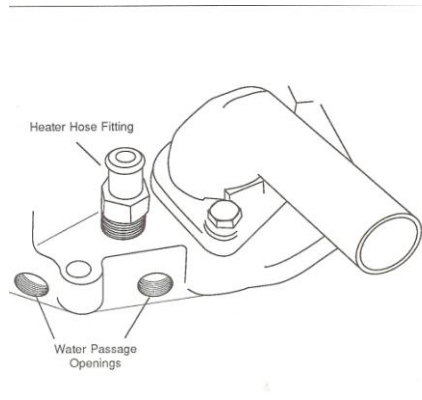

Figure 3
7. On side mount throttle applications, install the heater hose fitting next to the thermostat housing. On front mounted throttles, the heater hose could possibly connect to one of two forward facing water passage openings. (Figure 3)